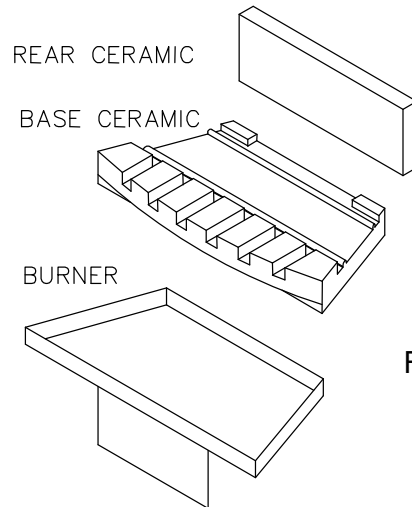

FIGURE 3
- 1 The burner tray and ceramics are illustrated in Figure 3. Take the base ceramic and place it on the burner. Then take the rear ceramic and place it at the rear of the firebox. It should rest on top of the base ceramic and against the rear wall of the firebox.
1. The burner tray and ceramics are illustrated in Figure 3. Take the base ceramic and place it on the burner. Then take the rear ceramic and place it at the rear of the firebox. It should rest on top of the base ceramic and against the rear wall of the firebox.